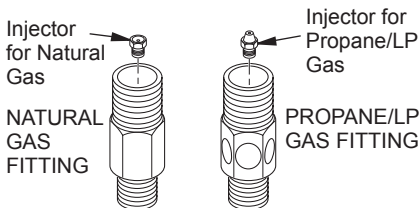

Figure 14 - Burner Inlet Fittings with Injectors
1. Remove burner inlet fitting from burner pan assembly. DO NOT remove orifice from this fitting. The propane/LP burner inlet fitting is included in the hardware kit (see Figure 14).